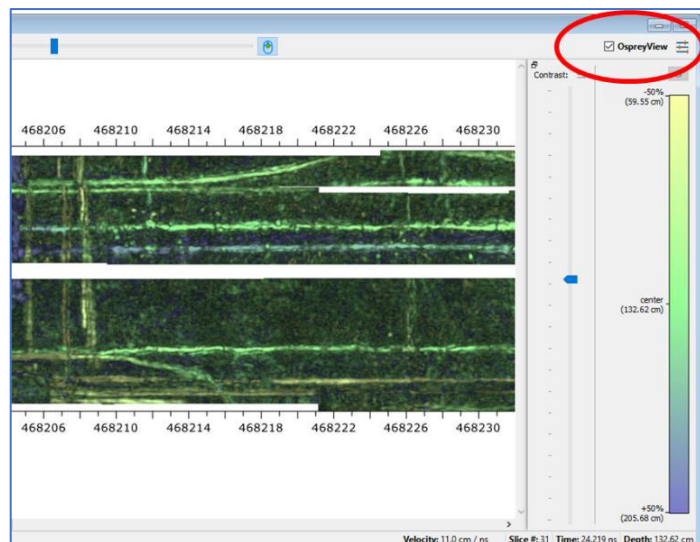

Figure 9 By checking the *OspreyView* in top right corner, Condor enters thick-slice mode. This mode gives a better overview, as well as depth perception.
- 1) **Top View:** shows a time slice of the data as a map in X-Y coordinates. You can change the depth of the current slice and change the representation parameters using the toolbar. By enabling **OspreyView**, a user may get better overview of available targets, not only at the depth of the current slice, see Figure 9, below.